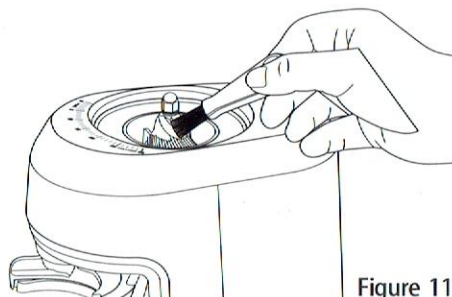

Figure 11
5. Clean the grind cartridge and bottom burr using the burr cleaning brush (located under the grind spill tray), see figure 11.